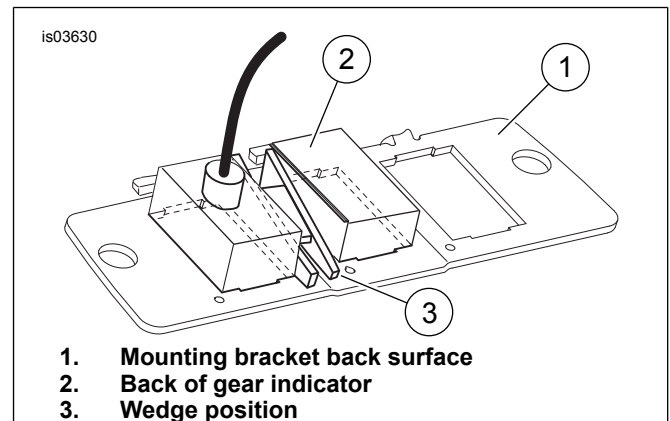
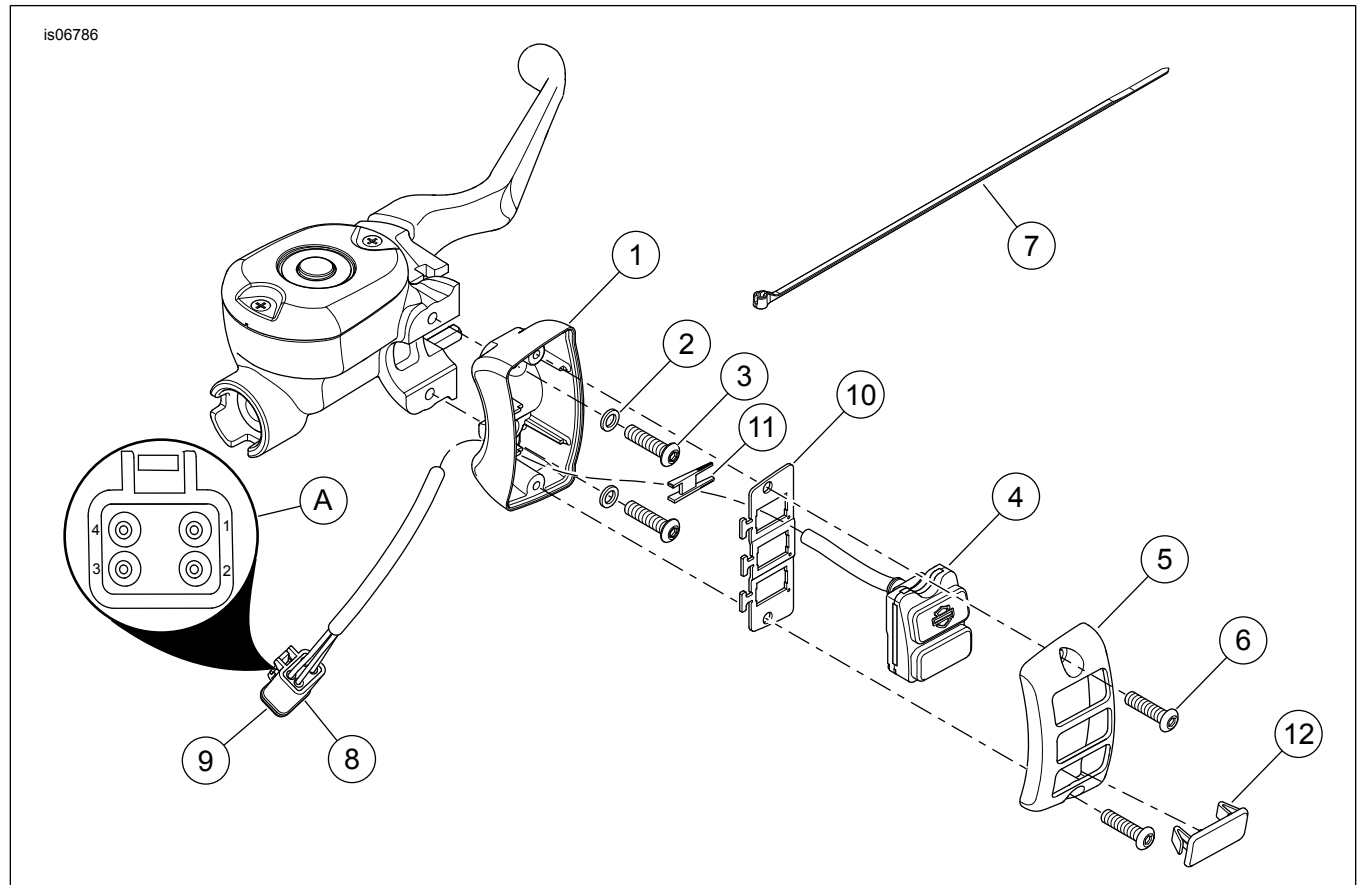

Figure 2. Mounting Bracket and Indicator Assembly Back View
Figure 3. Service Parts: Digital Gear Indicator
See Figure 3 and Table 1.
3. See Figure 3. Install gear indicator lower housing (1), washers (2) and screws (3). Tighten screws to 8–9 N·m (60–80 in-lbs).
4. See Figure 2. Install the gear indicator (2) with the wires into the upper mounting bracket opening.
5. Slide the wedge (3) with the pointed ends between the two boxes on the back of the gear indicator (2) from the tab side of the bracket (1). The wedge pointed ends are different thicknesses and have to conform to the step of the housing plate surface. This will secure the gear indicator tightly to the mounting bracket surface.
6. See Figure 3. Route the wiring harness of the gear indicator through the hole in the bottom of the lower housing (1).
7. Orient the gear indicator assembly (4) over the assembly mounting holes of the lower housing.
9. Install upper housing (5) over the lower housing and secure with two screws (6). Tighten the screws to 4–5 N·m (35–45 in-lbs).
10. Install the switch plug (12) in the lower opening of the upper housing.
12. See Figure 3. Install the three pins of the wiring harness into the 4-way socket housing (A) from the kit as follows:
- a. Install the black (BK) wire into terminal 2.
- c. Install the orange (O) wire into terminal 4.
- d. Install secondary lock (9) into the 4-way socket housing.
14. Gather any excess harness and secure near the connector with a cable strap (7).
15. Secure the gear indicator harness to the handlebar and main harness with cable straps (7).